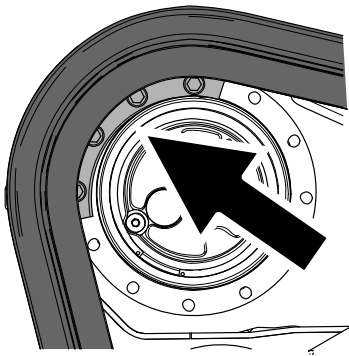

Figure 73
4. Move the traction control forward until the drive sprocket segment engages with the track (Figure 73).
9. Apply thread-locking compound to the bolts of the other drive sprocket segment that you removed and install the sprocket segment (Figure 73). Torque the bolts to 247 to 301 N·m (182 to 222 ft-lb).